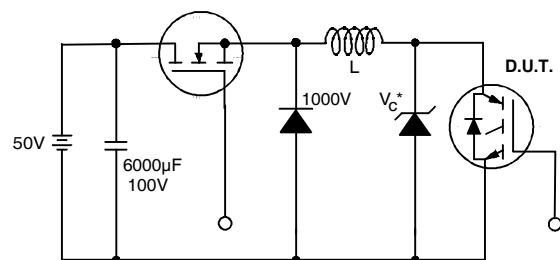

Figure 19. Clamped Inductive Load Test Circuit
- ② $V_{CC}=80\% (V_{CES})$, $V_{GE}=20V$, $L=10\mu H$, $R_G=23\Omega$ (figure 19)
- ③ Pulse width $\leq 80\mu s$; duty factor $\leq 0.1\%$.
- ④ Pulse width $5.0\mu s$, single shot.
- ⑤ $t = 60s$, $f = 60Hz$